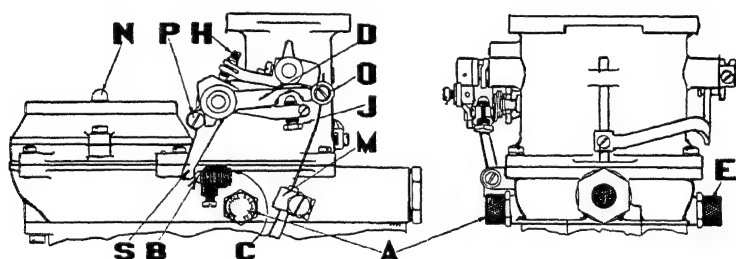

Fig. 133. Service Drawing of Schebler Model "S" Duplex Carburetor
**Carburetor Adjustments. *Idle Adjustment.*** The duplex Model "S" is provided with two idle adjustments, shown at *A* and *E* in Fig. 133. Have the engine warm before making any adjustments. Both adjustments *A* and *E* turn to the right in order to make the mixture lean and to the left or counterclockwise to enrich the mixture. The duplex carburetor has two throttle openings into the